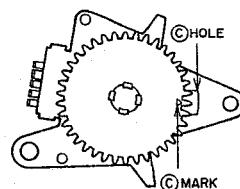

Fig. 3-14
1) Set the MODE SELECT SWITCH's gear, so that the ④ mark is in the center of the ⑤ hole as shown in Fig. 3-14.